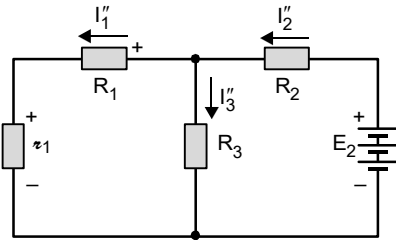

Fig.1.65: Considering source E_2 only
2. Then consider the other source E_2 and replace the source E_1 by its internal resistance r_1 as shown in fig.1.65. Determine the currents in various sections as I_1'' , I_2'' and I_3'' respectively.